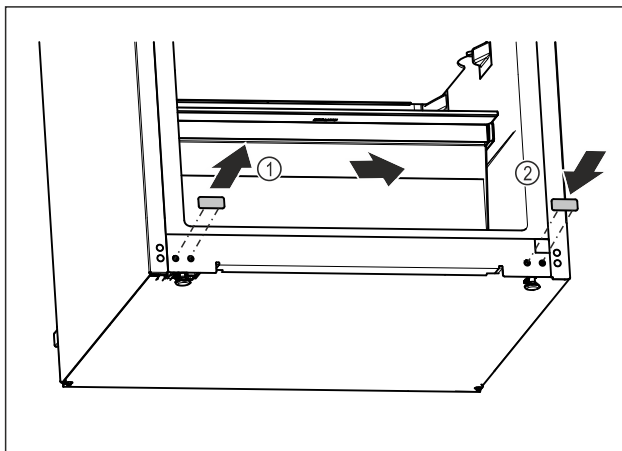

Fig. 17
- ▶ Pull out the cover plug. Fig. 17 (1)
- ▶ Insert the cover plug on the opposite side. Fig. 17 (2)